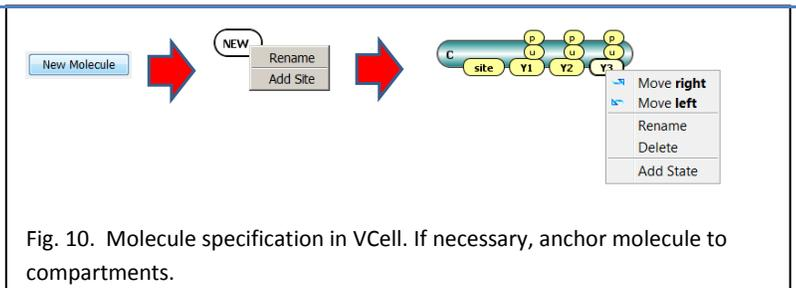

Fig. 10. Molecule specification in VCell. If necessary, anchor molecule to compartments.
1. Create one or more Molecules (Fig. 10).